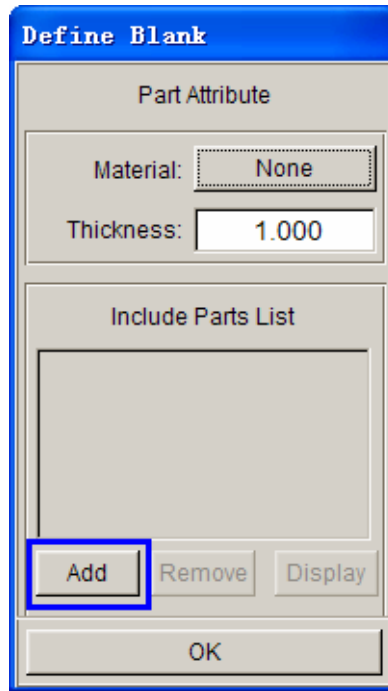

Figure 4.26: Define Blank dialog box
- 1) Select "Sheet" from the MSTEP dialogue window, then pop up the Define Blanks dialogue window; select "Add" to add the corresponding part to the sheet-metal tool. See figure 4.26.